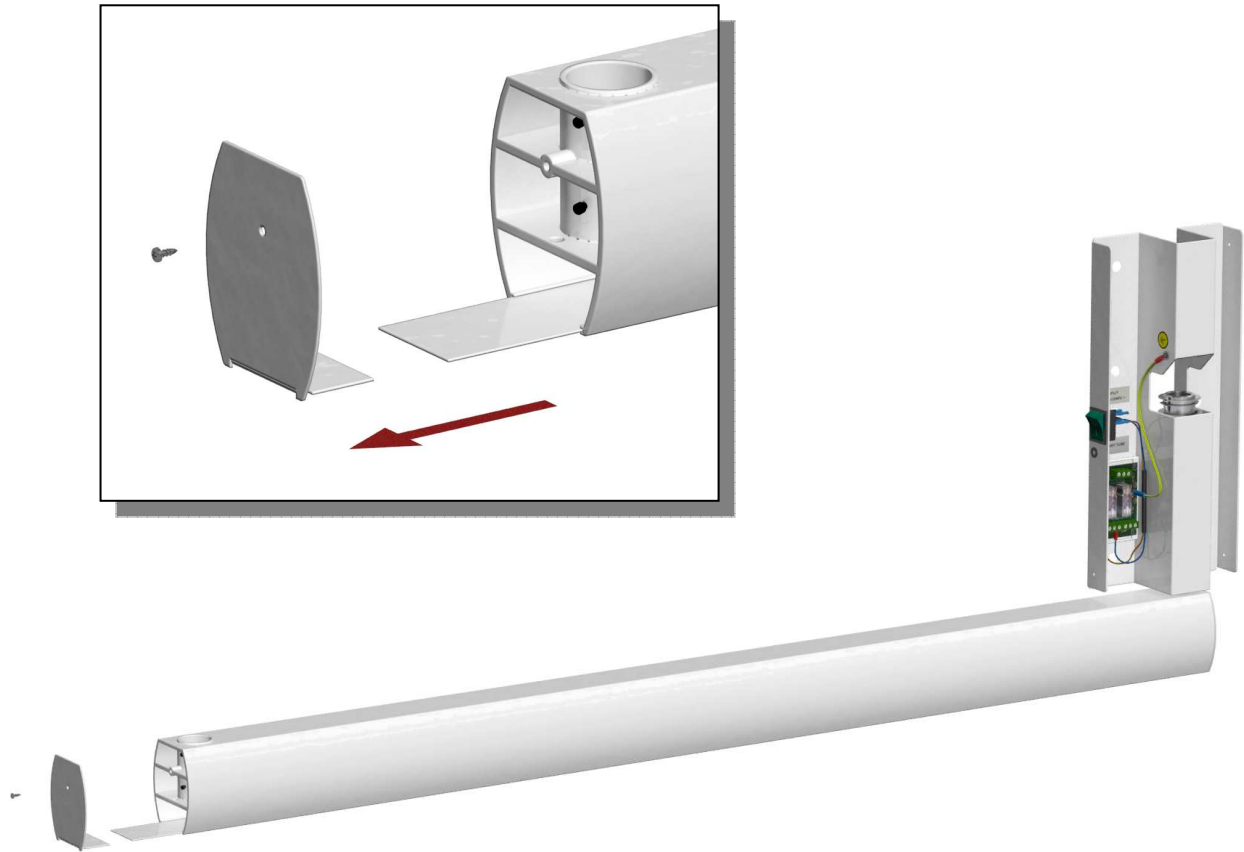

fig. 4
- ✓ Replace the SEGER, unhook the front cover and remove the lower strip cover strips (fig. 4)